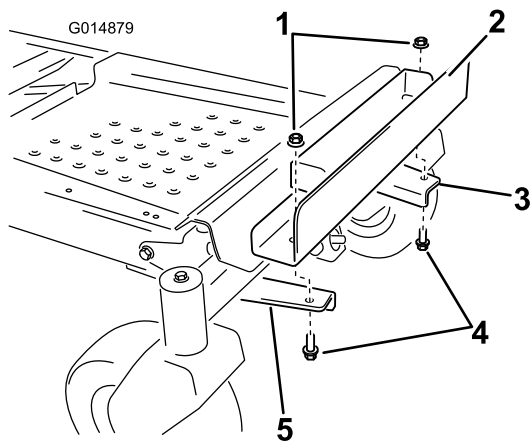

Figure 8
6. Install the weight bracket to the mounting brackets by aligning the outboard holes in the bracket with the mounting brackets installed previously (Figure 8).
7. Secure the weight bracket with 2 bolts (3/8 x 1 inch) and 2 locknuts (3/8 inch) (Figure 8).